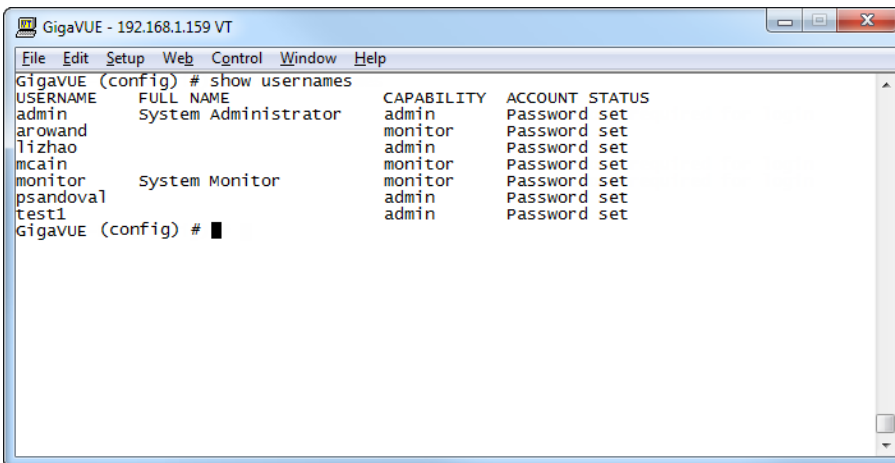

Figure 5 Reviewing the User List
2. Once you have configured these basic user accounts, use the **show usernames** command to review your settings. Figure 5 Reviewing the User List shows some sample **show usernames** output after several users have been added.